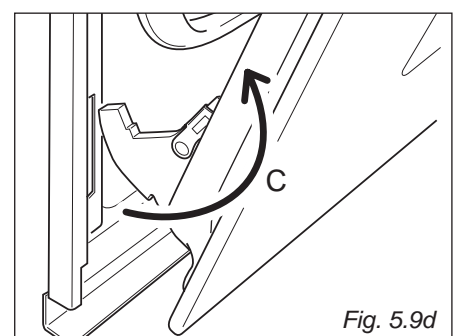

Fig. 5.9d
- Withdraw the hinge hooks from their location following arrow "C" (fig. 5.9d).